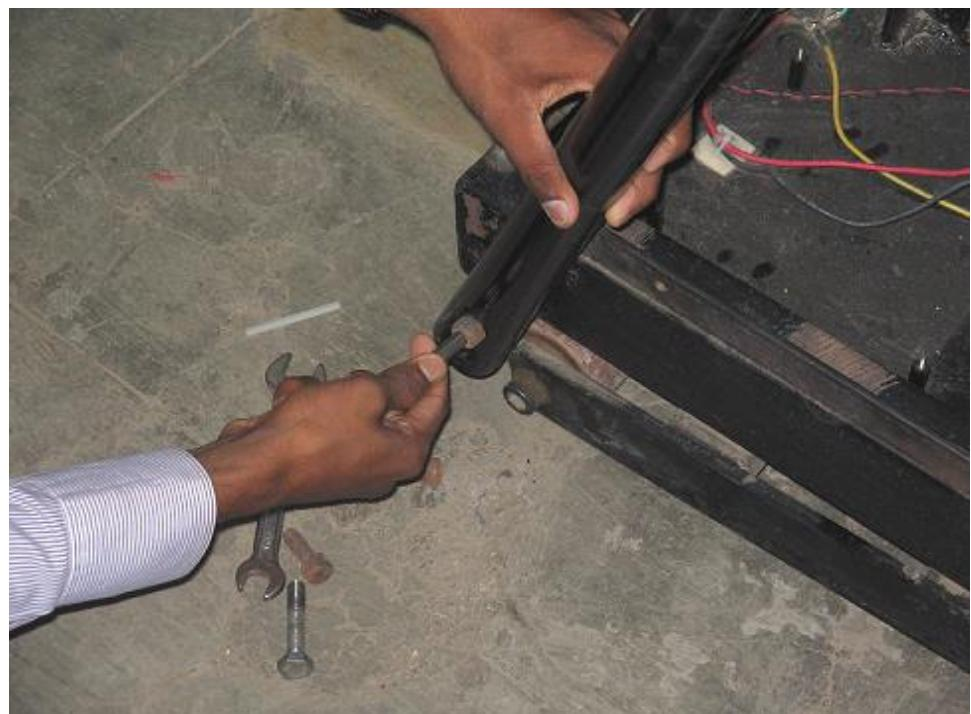

Fig.9
- a) First place front handle in its appropriate position matching with slot of Treadmill on both side and then fix it with four M10X25mm Allen bolt at four drill of Treadmill two on both sides as shown in fig 9.